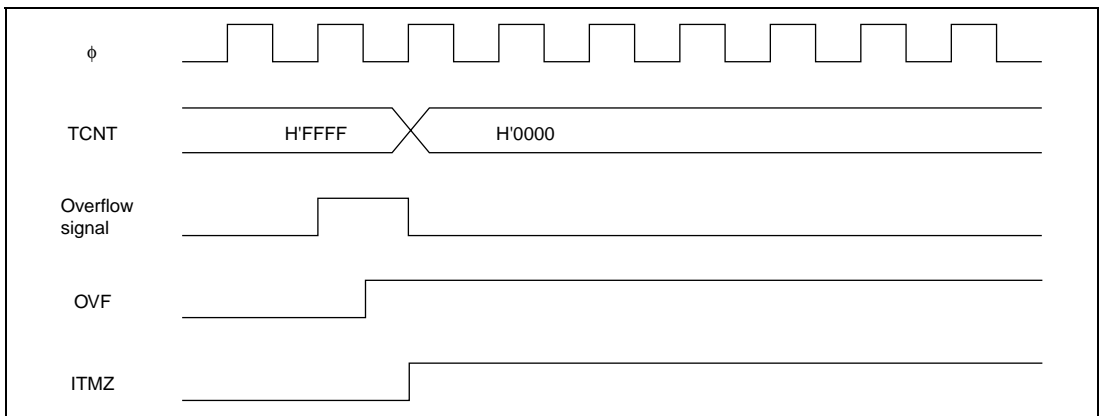

Figure 13.50 OVF Flag Set Timing
- Overflow Flag (OVF) Set Timing: The overflow flag is set to 1 when the TCNT overflows. Figure 13.50 shows the timing.